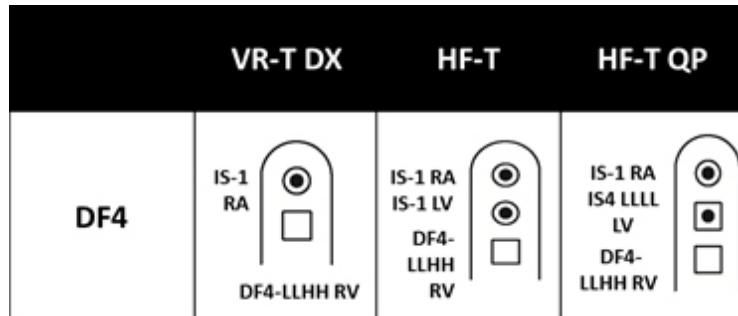

Figure 216: Acticor ProMRI® ICDs and CRT-D Header Ports
The Acticor ProMRI® ICD/CRT-Ds have been designed and are recommended for use with a DF4 RV lead connector for ventricular sensing, pacing and delivery of shock therapy. A separate bipolar atrial lead with IS-1 connector is required for atrial sensing and pacing functions and the CS lead for biventricular pacing (LV). Figure 216 depicts the configuration of the header ports on the Acticor ProMRI® ICD/CRT-Ds.